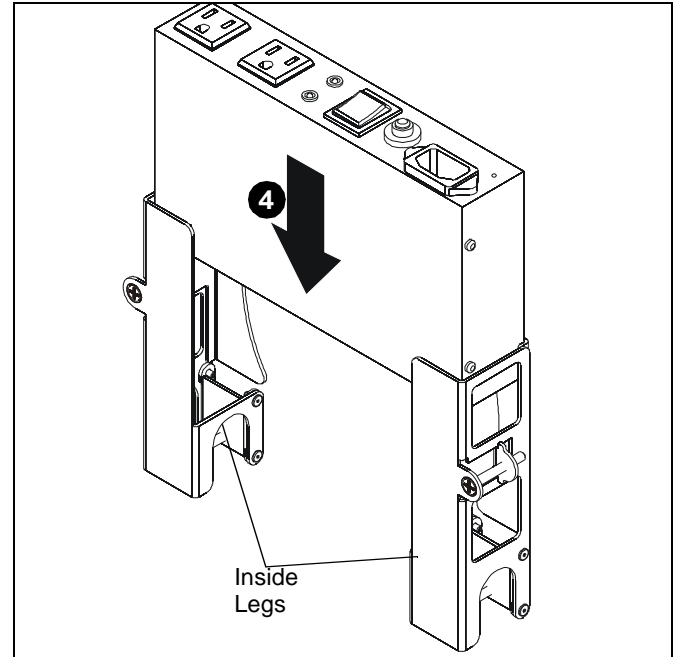

Figure 2
4. Remove paper from hook and loop squares, lower and press the surge adapter, or other component, against the left and right brackets. (See Figure 2)
5. Rest the surge adapter on the inside legs of the brackets. (See Figure 2)